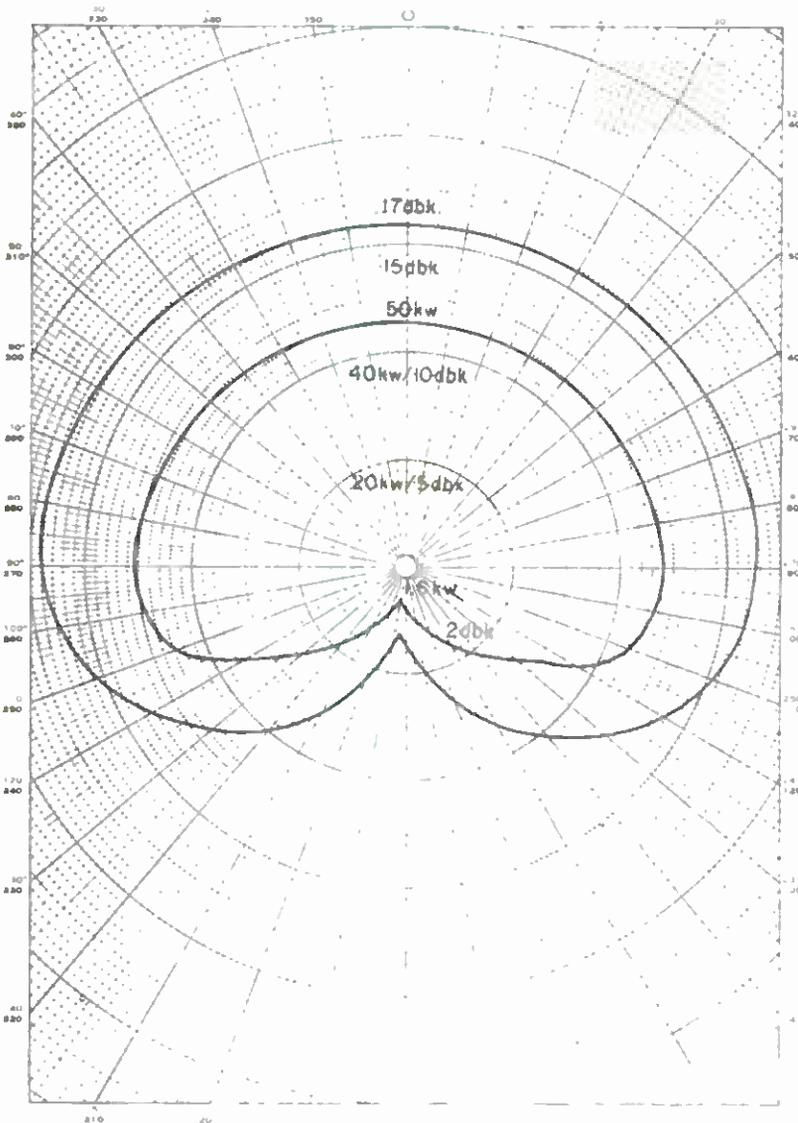

Fig. 1. An illustration of the relationship between power in kw and dbk for a given pattern.
In most cases where a directional FM antenna is used, the engineering portion of FCC Form 301 will be completed by the applicant's consulting engineer. However, sometimes a well qualified chief engineer can handle this work. (See Fig. 1.) If this is the case, these points should be observed. The application must completely describe the antenna and explain the method of obtaining directivity. You must provide a radiation pattern showing free space field intensity at one mile in mv/m for the horizontal plane1 and data on vertical radiation between plus
**Rule 72.213 (c):** In the case of short-spaced stations, maximum radiation may be used—provided that the maximum power radiated in the short-spaced direction is not in excess of the amount allowed non-directionally. No more than the maximum permissible power for the class of station concerned may be radiated in any direction, and the power increase off the radial separating the two stations must not be greater than 2 db for every 10° of change in azimuth. (See Fig. 1.)
**Rule 73.316 (c):** A directional antenna is considered to be any antenna that obtains a deliberate non-circular pattern for the purpose of improving coverage or using a particular site. It may not be used to circumvent the minimum mileage separation requirements. A ratio of 15 db maximum to minimum radiation will not be accepted. The hypothetical patterns in Fig. 1 comply with this rule.